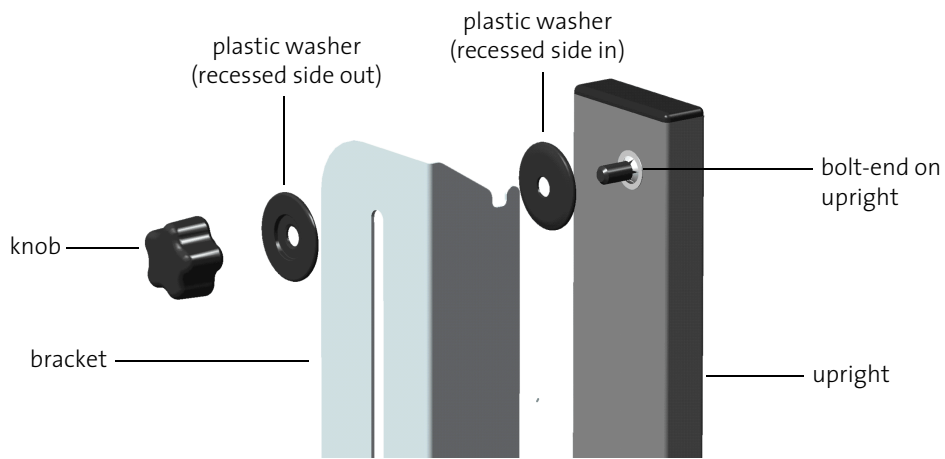

Figure 1-4 Attaching the brackets
4. Hang the two SMART Board brackets over the washers, with the wide, multi-notched side on the outside and the narrow three-holed side on the front of each upright. Each bracket should be at its lowest level, so that the top of the brackets are even with the top of the uprights (Figure 1-4).